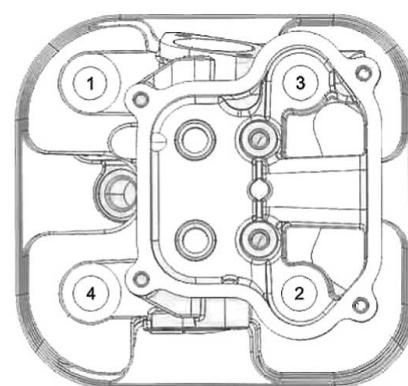

Figure 14-43. Cylinder Head Bolt Tightening Sequence
4. See Figure 14-43. Tighten cylinder head bolts to 11.1 ft-lbs (15 Nm) in specified torque sequence.